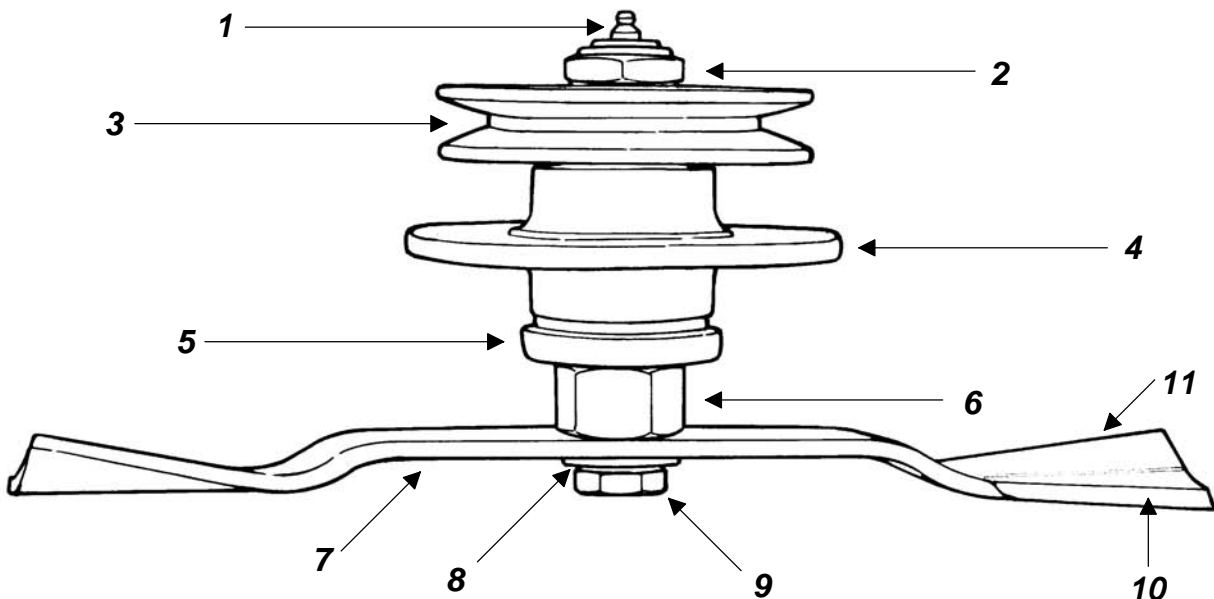

Fig. 18 - Spindle assembly.
1. The blade turns in a **counter clockwise** direction when viewed from the bottom of the deck. The cutting edge must be towards the direction of rotation. The lift wing of the blades is closest to the deck and the cutting edge away from it (**see fig. 18**).
2. Install the cup washer (see fig. 18) over the blade bolt and secure the blade in place as described above.